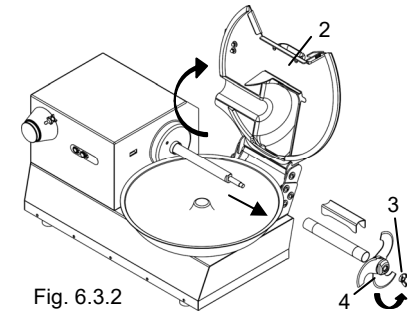

Fig. 6.3.2
- Raise the lid "2" (Fig. 6.3.2).
- Loosen the wing nut locking the blade-holder hub "3" Fig. 6.3.2.
- Remove the blade holder "4" (Fig. 6.3.2) from the shaft
- Raise the lid "2" (Fig. 6.3.2) and extract it from its seat.
- Remove the lid "2" Fig. 6.3.2 from its housing.
N.B: To avoid potential accidents, remove the lid only after having removed the blade-holder hub "4" Fig. 6.3.2 from the shaft.